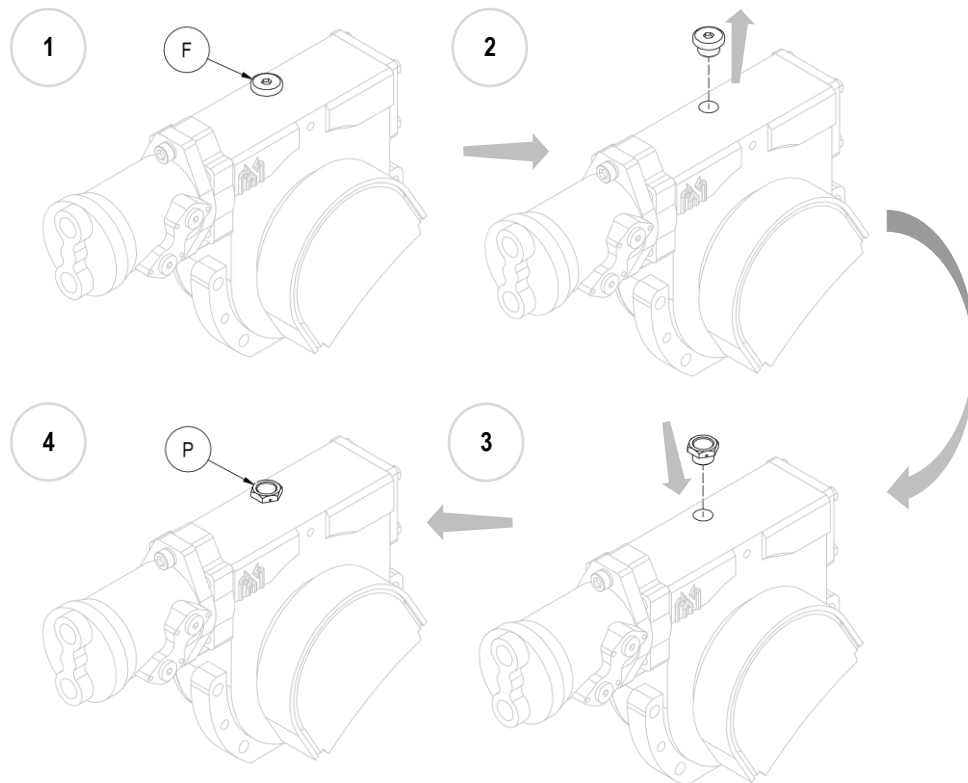

Figure 10
11. **N.B.** With the equipment mounted, before use, replace the blind iron oil filler plug (F) with the plastic one supplied (P), which includes a breather (see *Figure 10*).